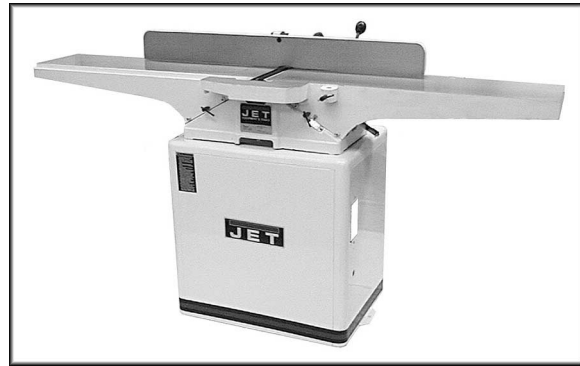

Figure 1
1. Use an assistant or hoist mechanism to place bed assembly on top of stand. Be sure identification label on the bed faces the same direction as the label on the stand (Fig. 1).
2. Line up two holes in top of stand with holes in bed assembly by viewing through access door in stand (Fig. 1).